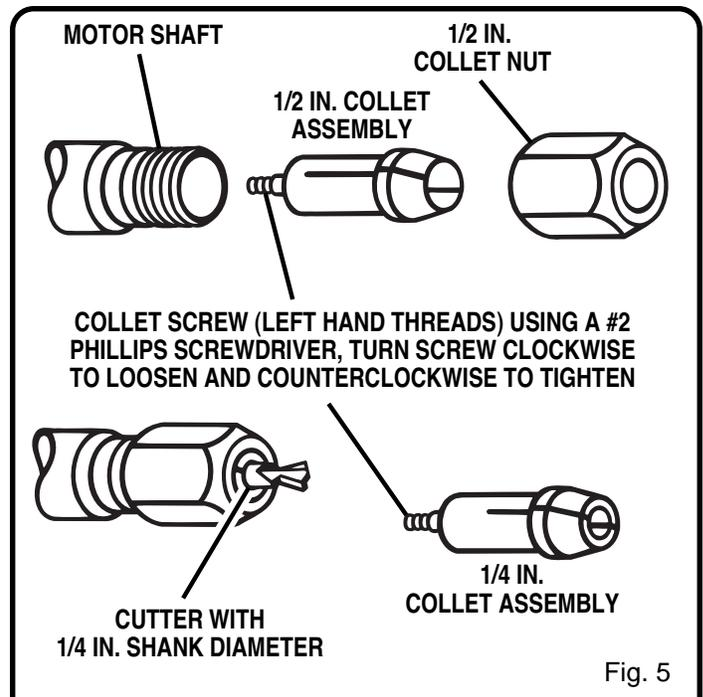

Fig. 5
■ The 1/2 in. (13 mm) collet is machined to precision tolerances to fit cutters with 1/2 in. (13 mm) diameter shanks. A 1/4 in. (6.4 mm) collet assembly has also been provided with your router so that cutters with 1/4 in. (6.4 mm) shank bits can be used. See Figure 5.
■ Replace with the 1/4 in. (6.4 mm) collet assembly, securely tightening collet screw in collet to motor shaft, then reassemble the 1/2 in. (13 mm) collet nut. See *Figure 5*. Make sure collet can turn freely inside motor shaft once collet screw is tight.